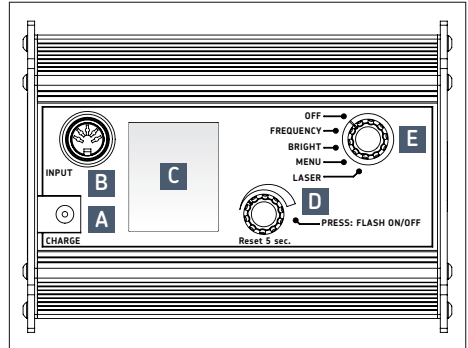

Fig.1 – Stroboscope SKF TKRS 41
- 5.1 Connectors (→ fig. 1)7
- 6.1 Controls (→ fig. 1)9
5.1 Connectors (→ fig. 1)
1. Charge the device: plug the charger into the CHARGE socket (A) to the rear of the device (→ fig. 1).
2. Direct the device at a moving object and switch on. Turn the selector switch (E) one notch to the left to "FREQUENCY".